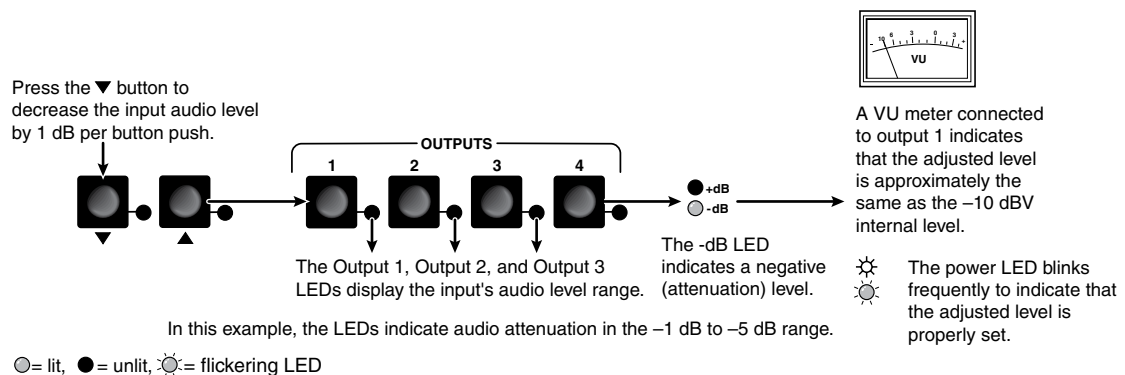

Figure 3-33 — Adjust the input audio level
3. Press and release the ▼ button once to decrease the audio level (figure 3-33). The ▼ LED flashes each time the button is pressed
Press and release the ▼ button several more times to continue to decrease the audio level (figure 3-33). Note the output LED, +dB LED, and -dB LED changes that occur each time the ▼ button is pressed and released.
Figure 3-33 shows the result of pressing the ▼ button a total of 9 times to change the value to -1 dB. Note that the +dB LED has turned off and that the -dB LED is on to indicate a negative level.